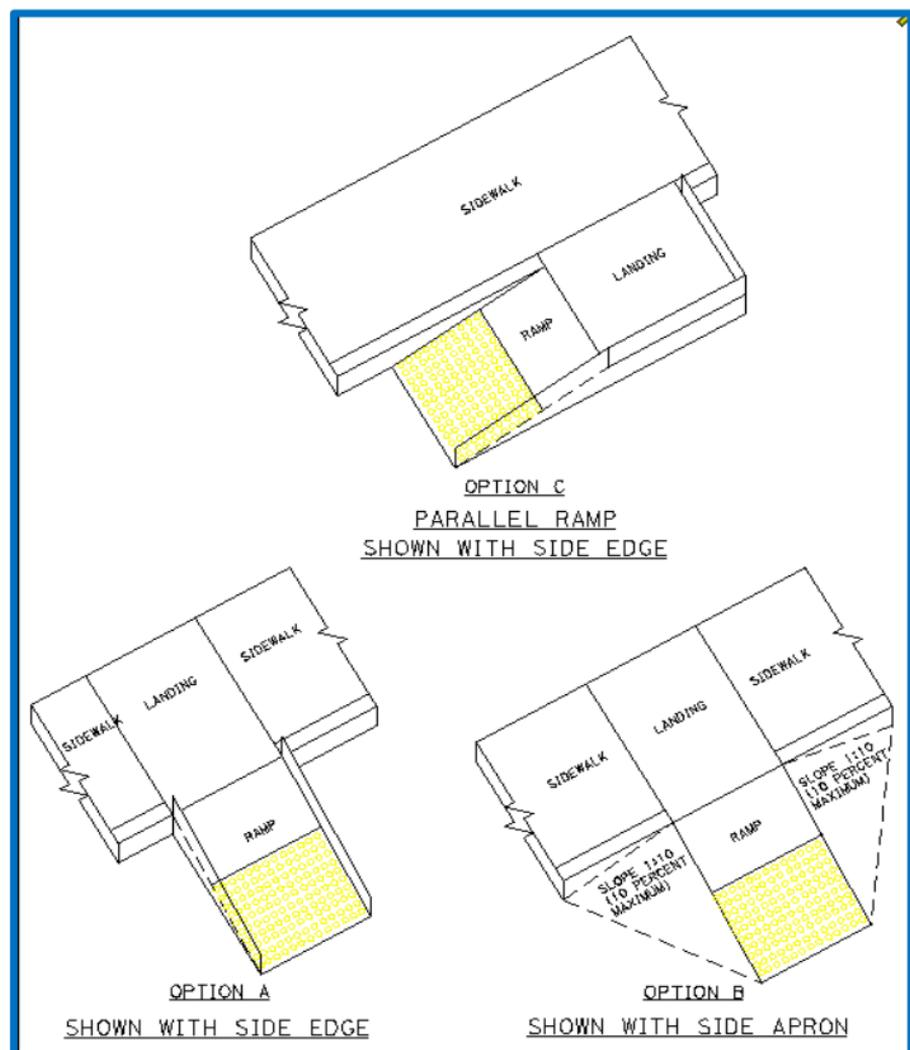

Figure 15 Temporary Curb Ramp Options
- Curb ramps must have edge protection at least 2 inches high on each side if the curb ramp does not have flares and the rise is greater than 6 inches, (See Figure 15.)